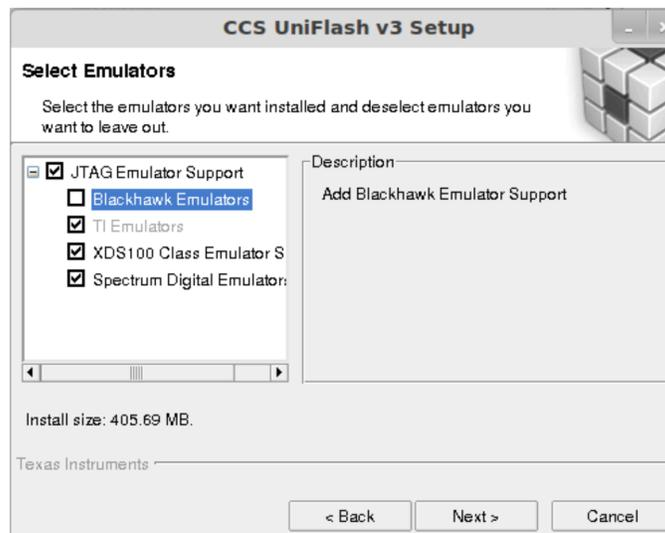

Figure 9. Spectrum Digital Emulator Support
3. Make sure TI emulators, XDS100 class and Spectrum Digital emulator support is installed (see Figure 9).